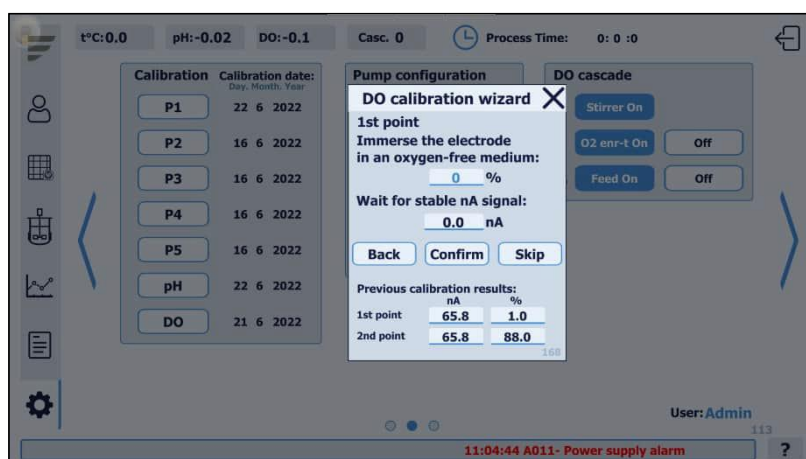

Figure 12.4. pO₂ two point calibration wizard (first step)
- 4) Subject the electrode to an oxygen-free environment and wait for the nA reading to stabilize (usual in the range of 0 – 1.5 nA), see Figure 12.4;
- 2) Press READY (see Figure 12.4) and a notification window “Calibration OK!” will appear;